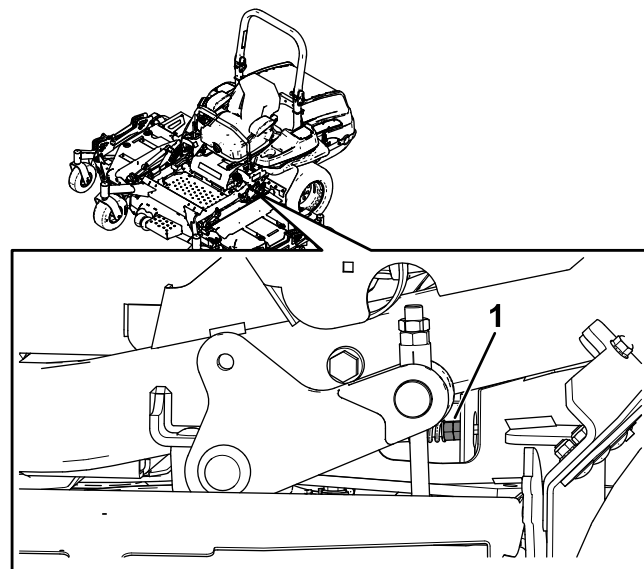

Figure 67
10. Adjust the pump-control-rod lengths by rotating the double nuts on the rod in the appropriate direction until the wheels slightly creep in reverse (Figure 67).